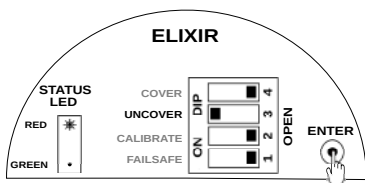

Figure 15: Setting Uncover Delay
- Press ENTER and keep it pressed as shown in Figure 15. The STATUS RED LED will start blinking. Count the number of blinks. After setting the value release the ENTER key.